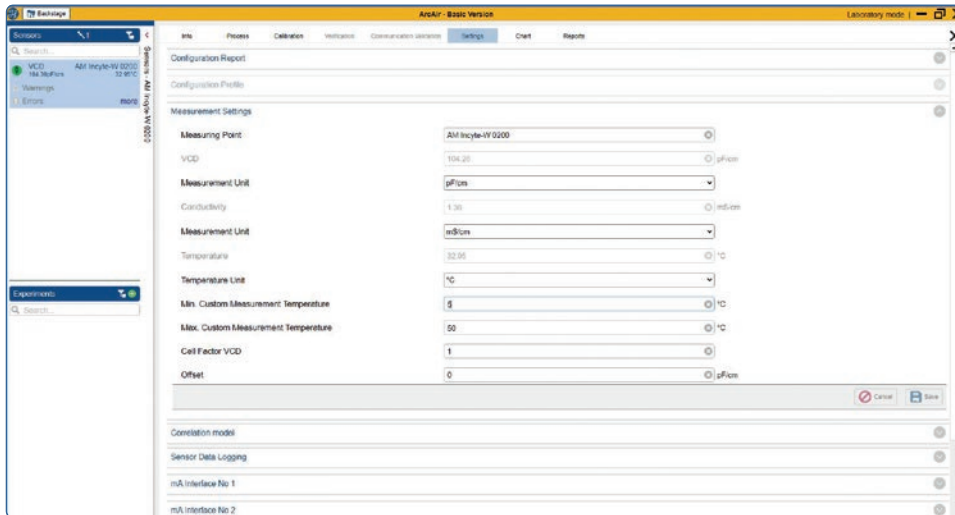

Figure 20: Measurement Settings.
- 1) Go to the «Measurement Settings» (Figure 20)